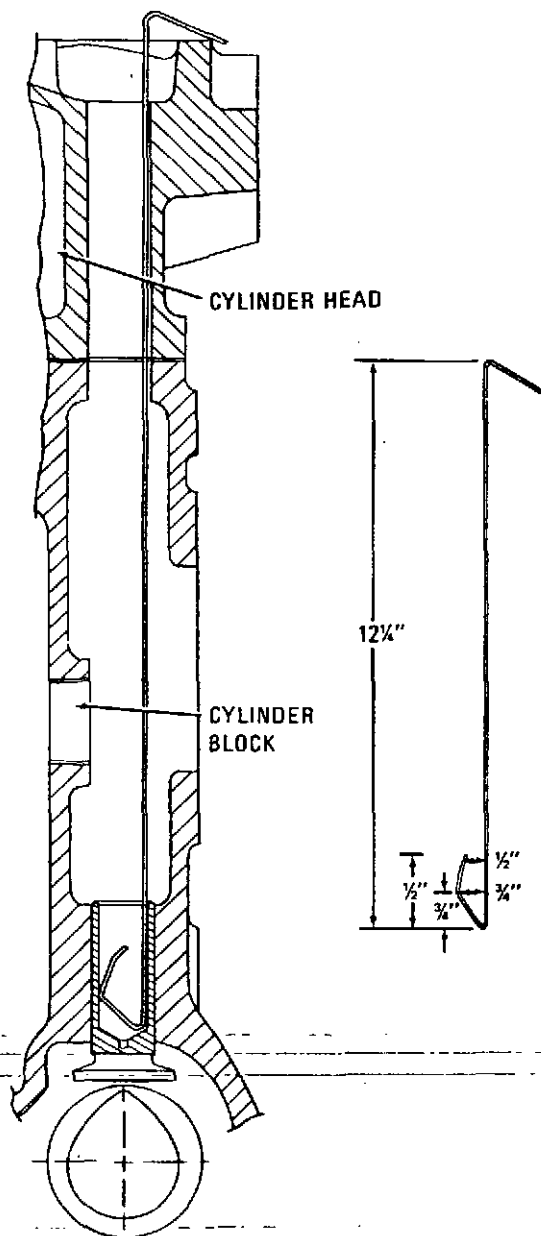

Figure 5-28. Valve Tappet Positioned for Camshaft Removal
8. If the engine is being serviced while in the unit, the valve tappets (53) must be held in the raised position in order to remove the camshaft. One method of accomplishing this is to make a holder, as illustrated in figure 5-28, by bending a wire to form a spring-acting hook on one end. This holder may then be inserted into the hollow part of the tappet and the tappet lifted away from the camshaft. Bend the holder over the edge of the pushrod hole in the cylinder head so that the tappet will remain in this position. Repeat this procedure for each of the remaining tappets. With the engine out of the unit, it is necessary only to set the engine on the bellhousing or upside down (support the engine with suitable blocks so that the cylinder head studs will clear), push the tappets to the raised position, and remove the camshaft.
1. Insert the valve tappets (53, figure 5-16) into their respective holes in the cylinder block. Use the holding wires to keep the tappets in the raised position during camshaft installation, as shown in figure 5-28.